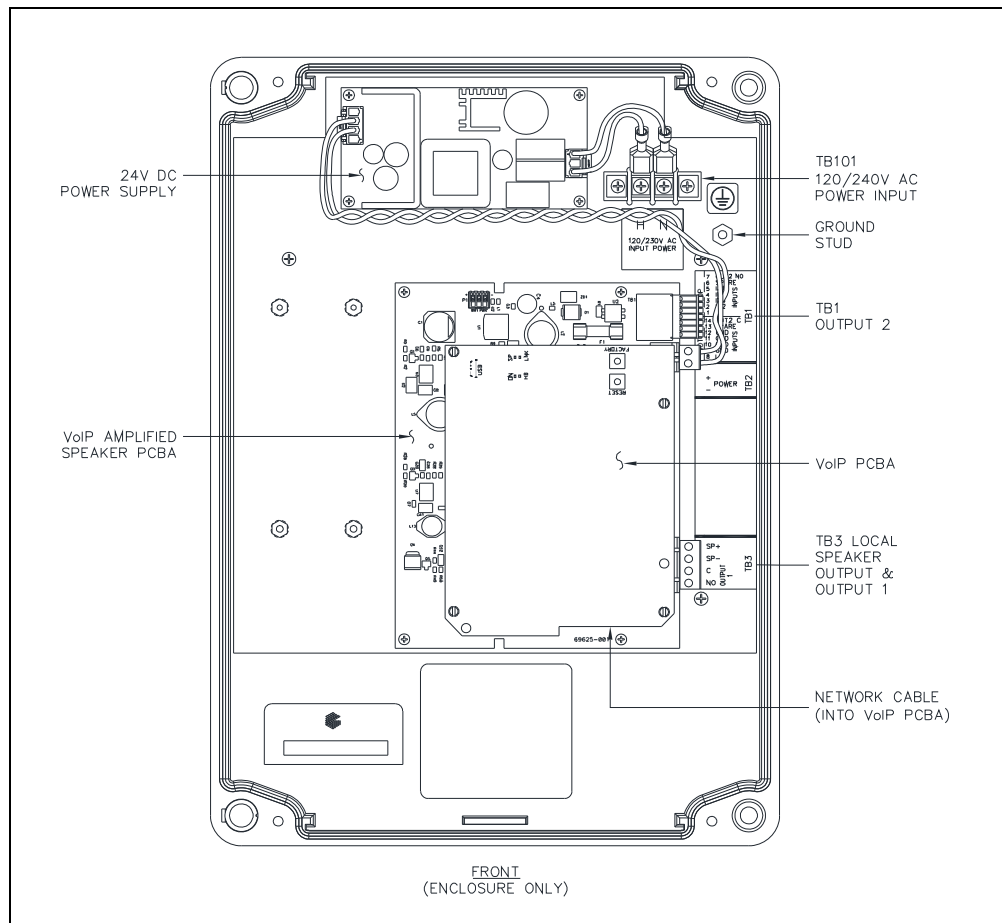
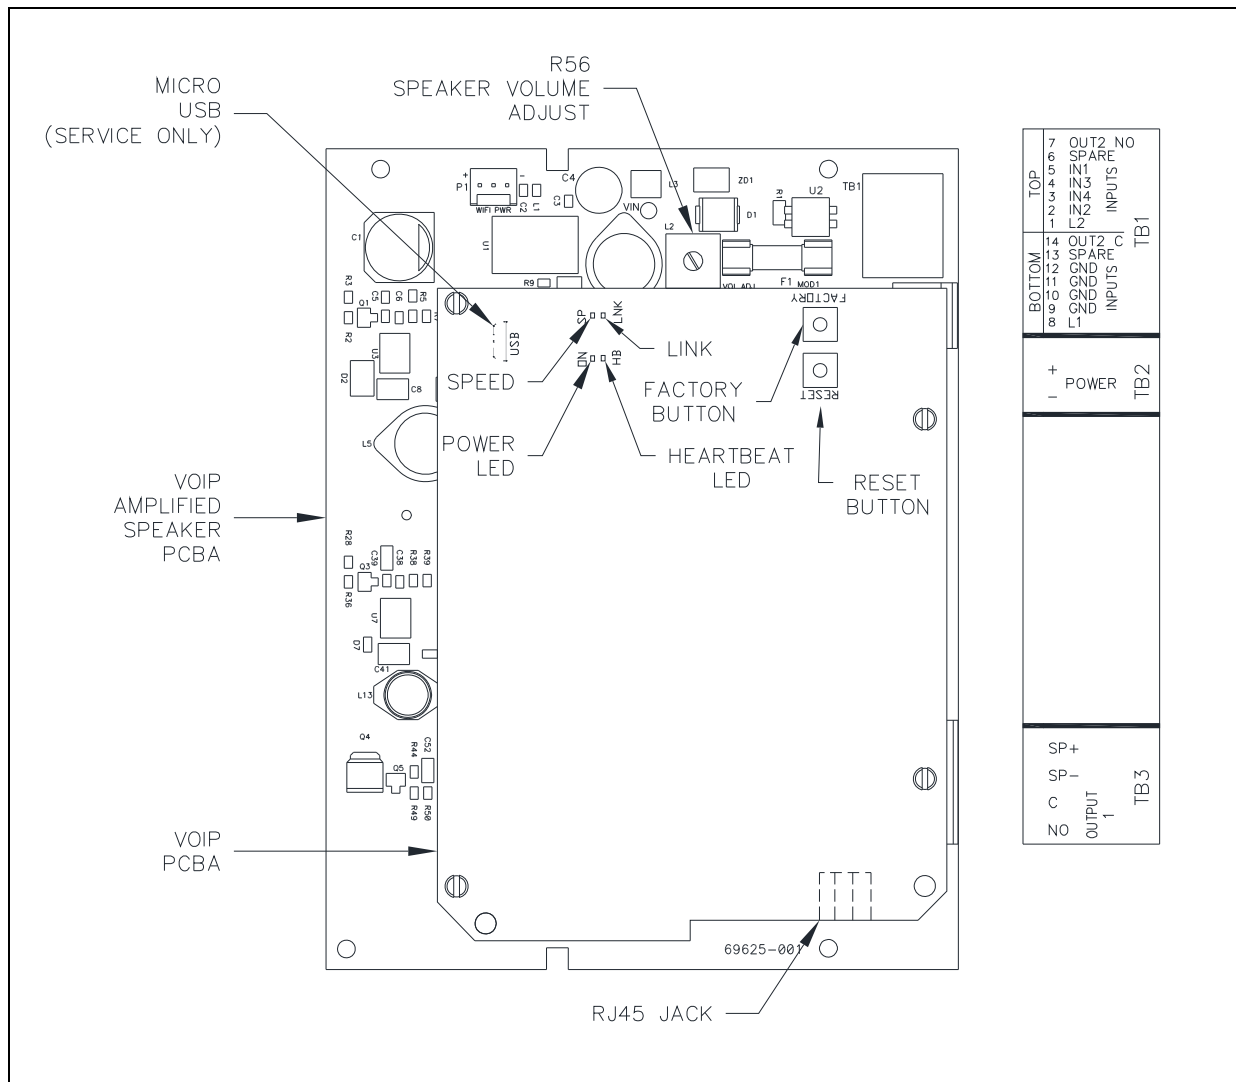

Figure 4. Field Wiring Connections
Figure 5. VoIP PCBA—Component Locations
3. Install all connections as indicated in the following subsections (see Table 1, Table 2, Figure 4, and Figure 5 for wiring details).
Connect the LAN cable (Category 5 or better UTP cable) to the RJ45 jack, located on the underside of the VoIP interface PCBA (see Figure 4).
2. Connect the power conductors to terminal block TB101, located in the upper right corner of the housing (see Figure 4).
Connect an 8-ohm speaker to removable terminal block TB3 terminals 1 and 2 (see Figure 4).
Two relay contact sets are available on connectors TB3 and TB1. Each contact set is form A type NO (normally open) (see Figure 4).
Connect the 600-ohm audio output wiring to connector TB1, terminals 1 and 8 (see Figure 4).
The ON LED, located on the VoIP PCBA (see Figure 5), illuminates when power is applied to the telephone.
The HB LED, located on the VoIP PCBA (see Figure 5), flashes when communication over the LAN is established.
The LNK LED, located on the VoIP PCBA (see Figure 5), indicates an active network connection when illuminated.
The SP LED, located on the VoIP PCBA (see Figure 5), indicates a 100 Mbps network connection when illuminated or a 10 Mbps connection when off.
Press the RESET button momentarily to warm reboot the telephone (see Figure 5). The telephone maintains the current configuration.
Use the FACTORY button (see Figure 5) to erase the current configuration and restore the factory default settings: